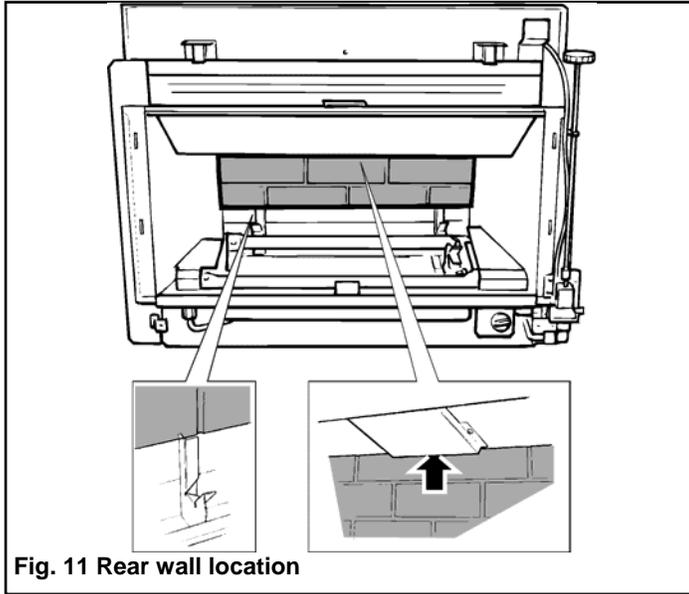

Fig. 11 Rear wall location
5.4.1 Install the ceramic rear wall at the back of the firebox (see fig.11). The wall has "BASE" embossed at the bottom. Make sure that the wall is behind the metal channel at top of the firebox